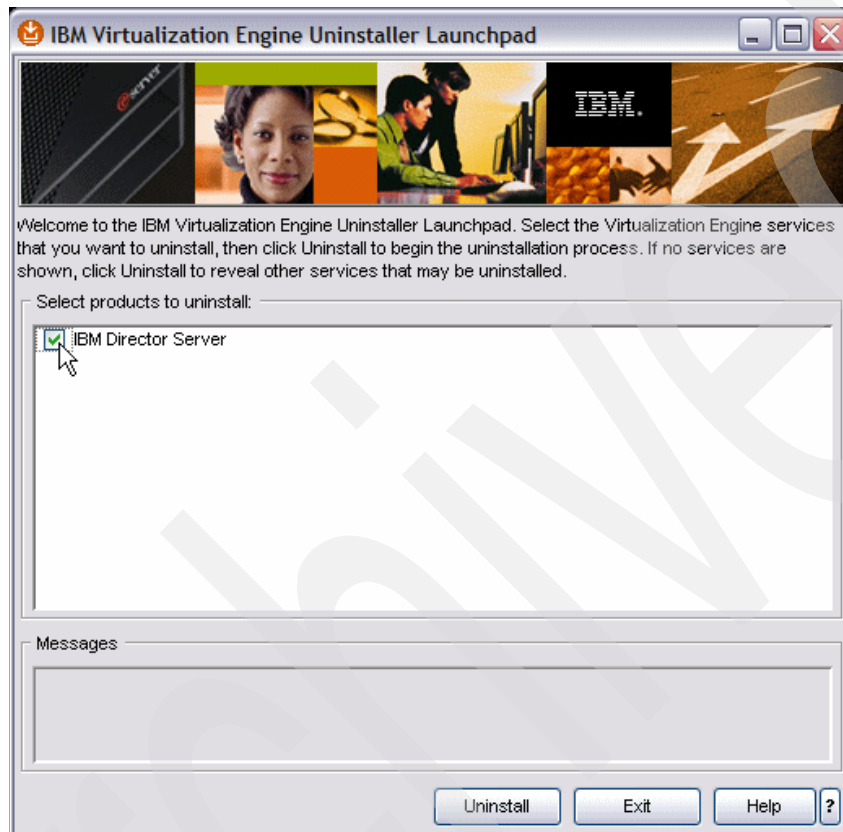

Figure 5-35 IBM Virtualization Engine Uninstaller Launchpad select IBM Director Server
4. On the IBM Virtualization Engine Uninstaller Launchpad (Figure 5-35), select **IBM Director Server** in the list of products to uninstall and click **Uninstall**.